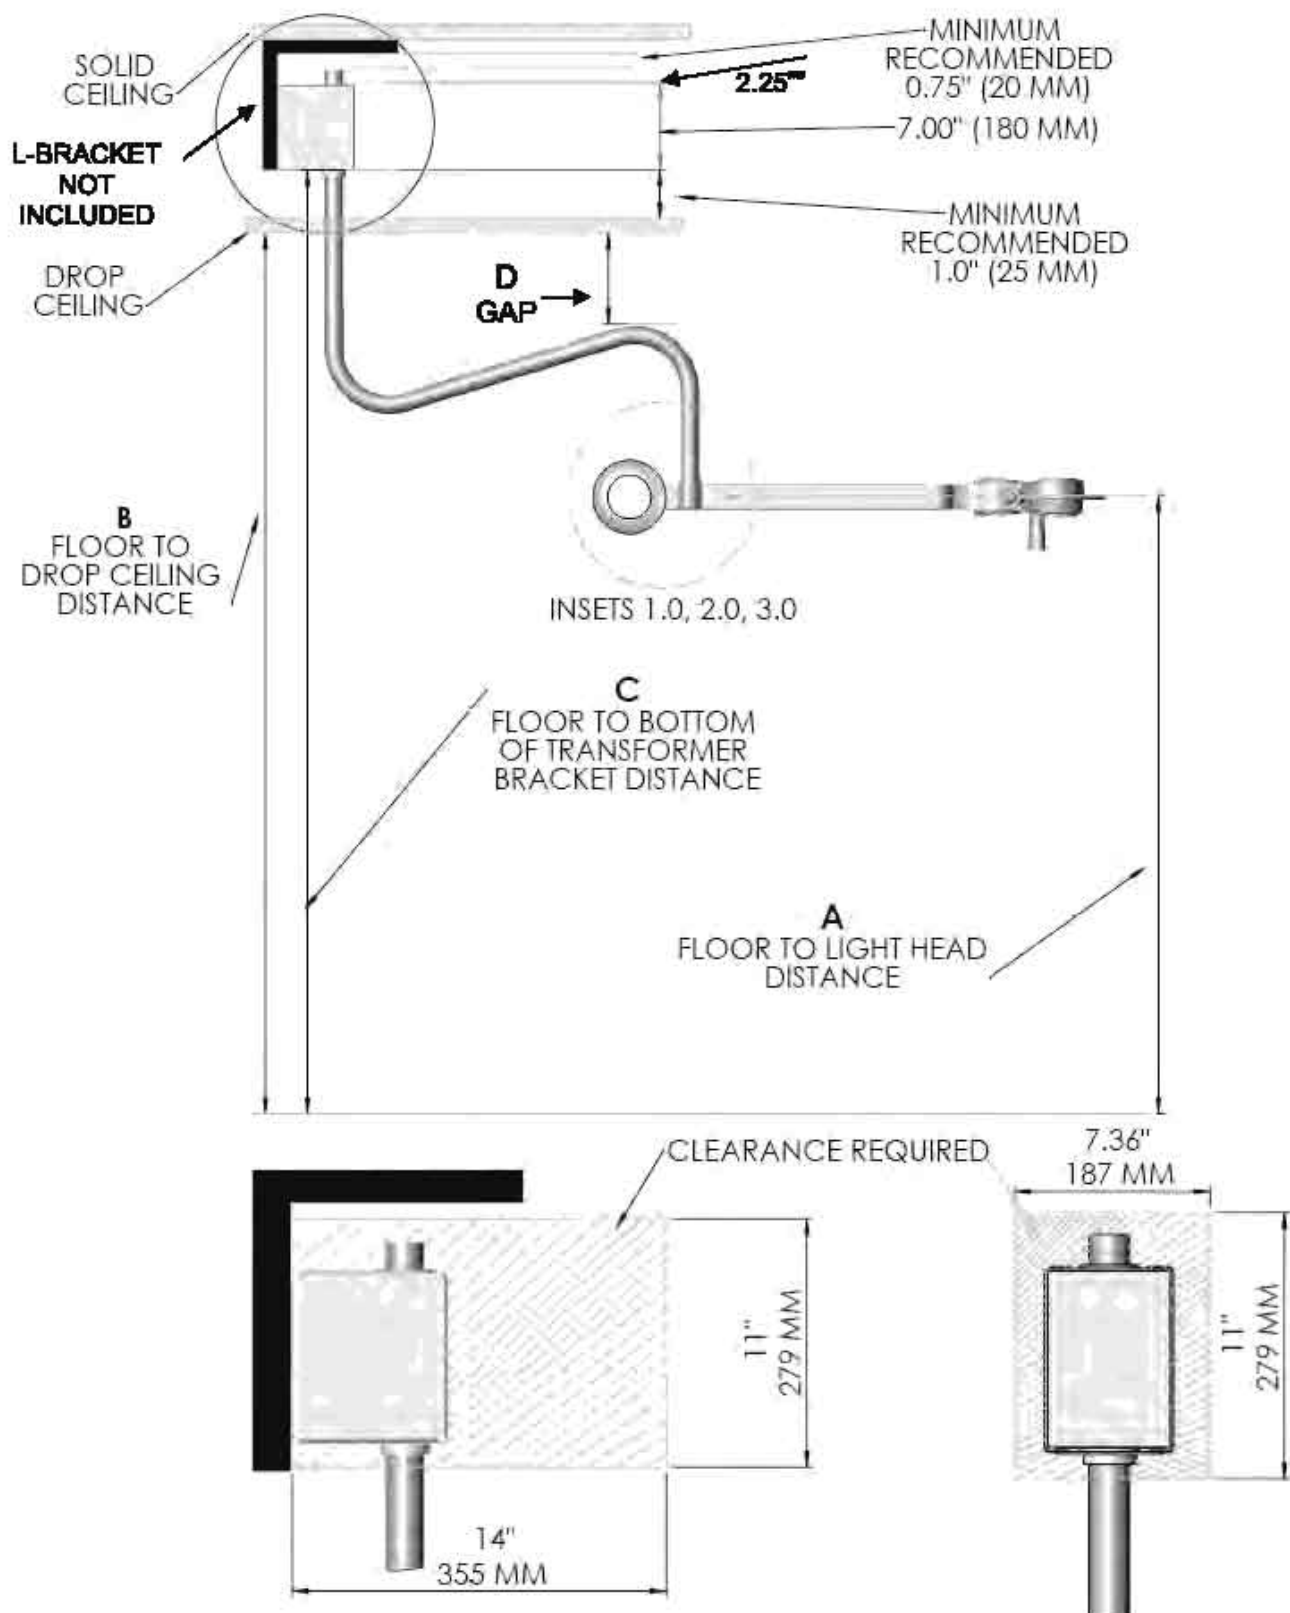

Figure 8. General mounting (shown with an L-bracket)
- ✓ Carefully follow guidelines specified in this manual (refer to figures 8, 9 and 10)
Refer to Figures 8, 9 & 10 and Table 1 for mounting heights and appendix A for hole pattern of the transformer housing and optional brackets & plates.
IT MAY BE NECESSARY TO MOUNT THE DUAL BRACKET BELOW THE HARD CEILING AT A CERTAIN DISTANCE TO ACHIEVE PROPER FLOOR TO LIGHT DISTANCE. REFER TO TABLE 1 AND FIGURE 8.
(Refers to Figures 8, 9 & 10)
2. Follow Table 1 and Figures 8, 9 & 10 to determine the location of installation.
3. Fasten the transformer housing to the desired location using four (4) 3/8" or M10 bolts (not provided). The type of bolt will be dependent on your installation. These bolts may need to be either lag or machine bolts. Minimum lag bolt length is 2-1/4" or 60mm. Verify that the transformer housing is level. If not, arm will drift.
4. Position and install transformer housing cover on mounting bracket. Secure with plastic screws (4) provided.
Inset 1.0 (Figure 8)
Inset 2.0 (Figure 8)
Inset 3.0 (Figure 8)